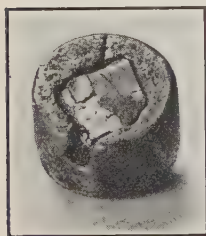

FIGURE 700. — DETECTOR CRYSTAL.
**481. The Crystal Detector.** — It has been found that certain crystals, such as galena, silicon, carborundum, and others, conduct current much better along one axis of the crystal than in other directions. A crystal detector (Figure 700) consists of such a crystal mounted in a conducting stand in such a way that